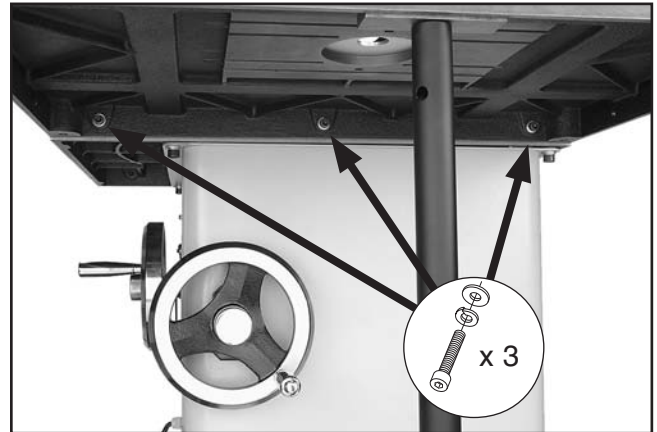

Figure 10. Router table attached to the table saw.
6. With the help of another person to hold the table and leg assembly, align the mounting holes in both tables and secure them together with the (3) M8-1.25 x 30mm cap screws, (3) 8mm lock washers, and (3) 8mm flat washers, as shown in **Figure 10**.